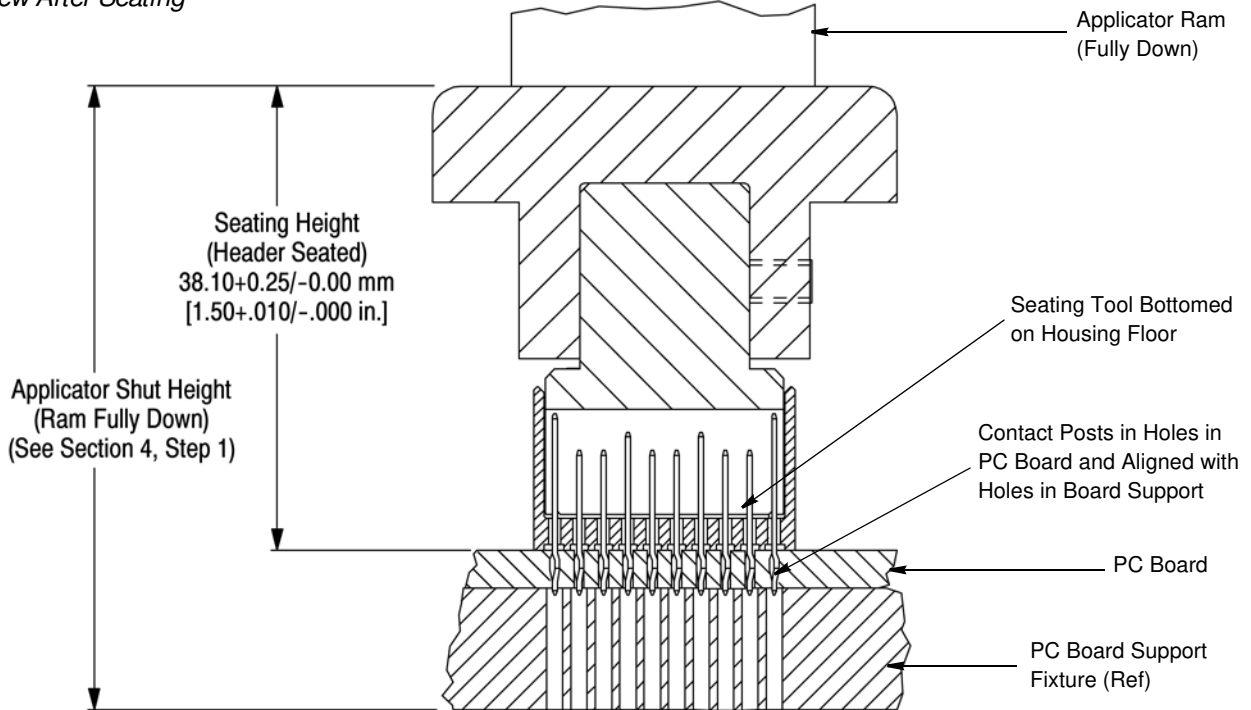

Figure 3
1. Set seating height to the dimension shown in Figure 3 (applicator *shut height* will equal the seating height PLUS the combined thicknesses of the pc board and pc board support).
6. Cycle applicator ram according to instructions for the power source. Check assembly for proper seating using the requirements in Figure 3.